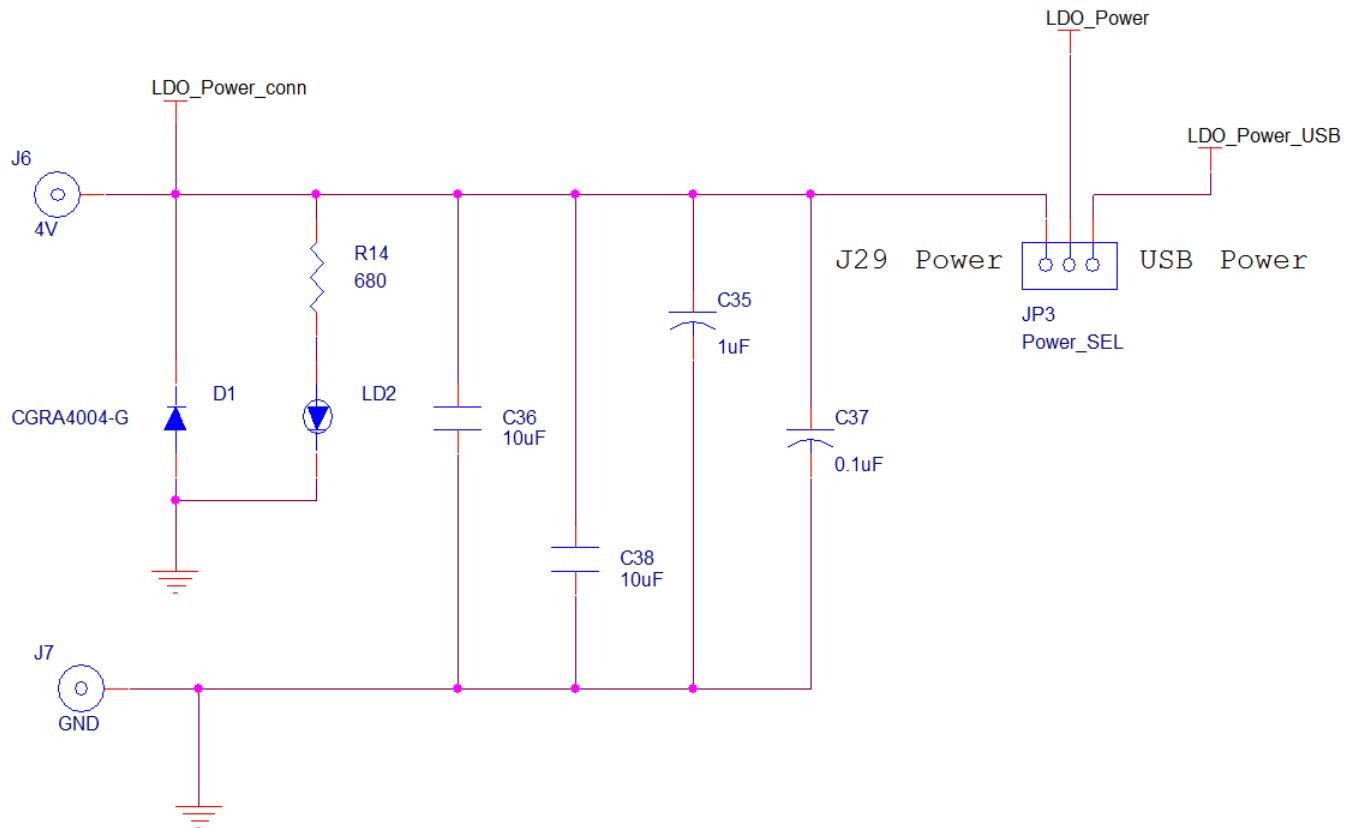

Figure 9. Power Source Selection Schematic
1. Set JP3 to the position shown in Figure 9.